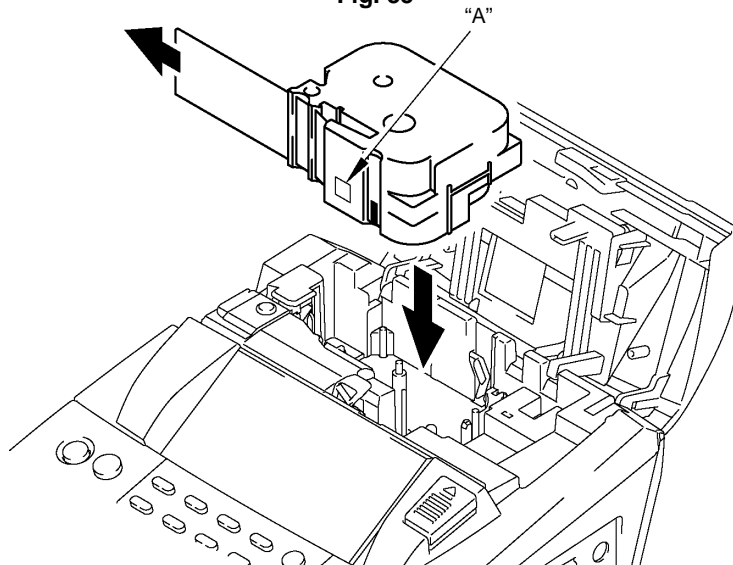

Fig. 34
- (1) Press the “RET” key to start to print. After the completion of printing, this mode shifts to the Avery Detection Voltage Mode as shown in Fig.34.